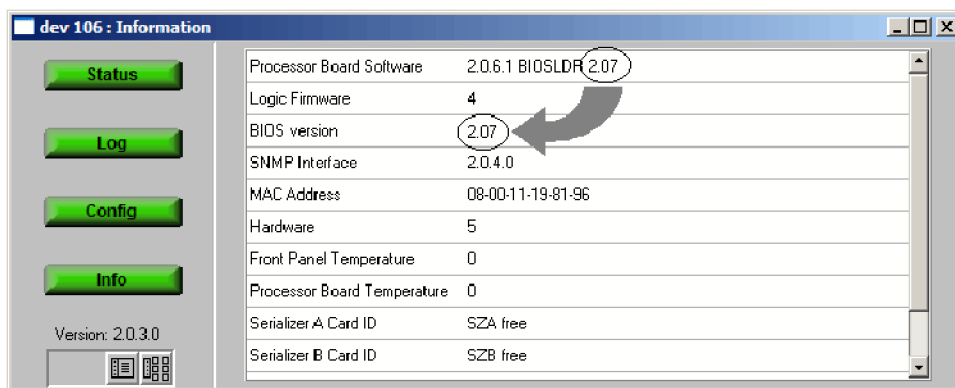

Figure 12: Verifying the BIOS version (RUI v2.6.1 and below)
- 12. In the Device view, click **Info** to open the Information view. (See Figure 12.)